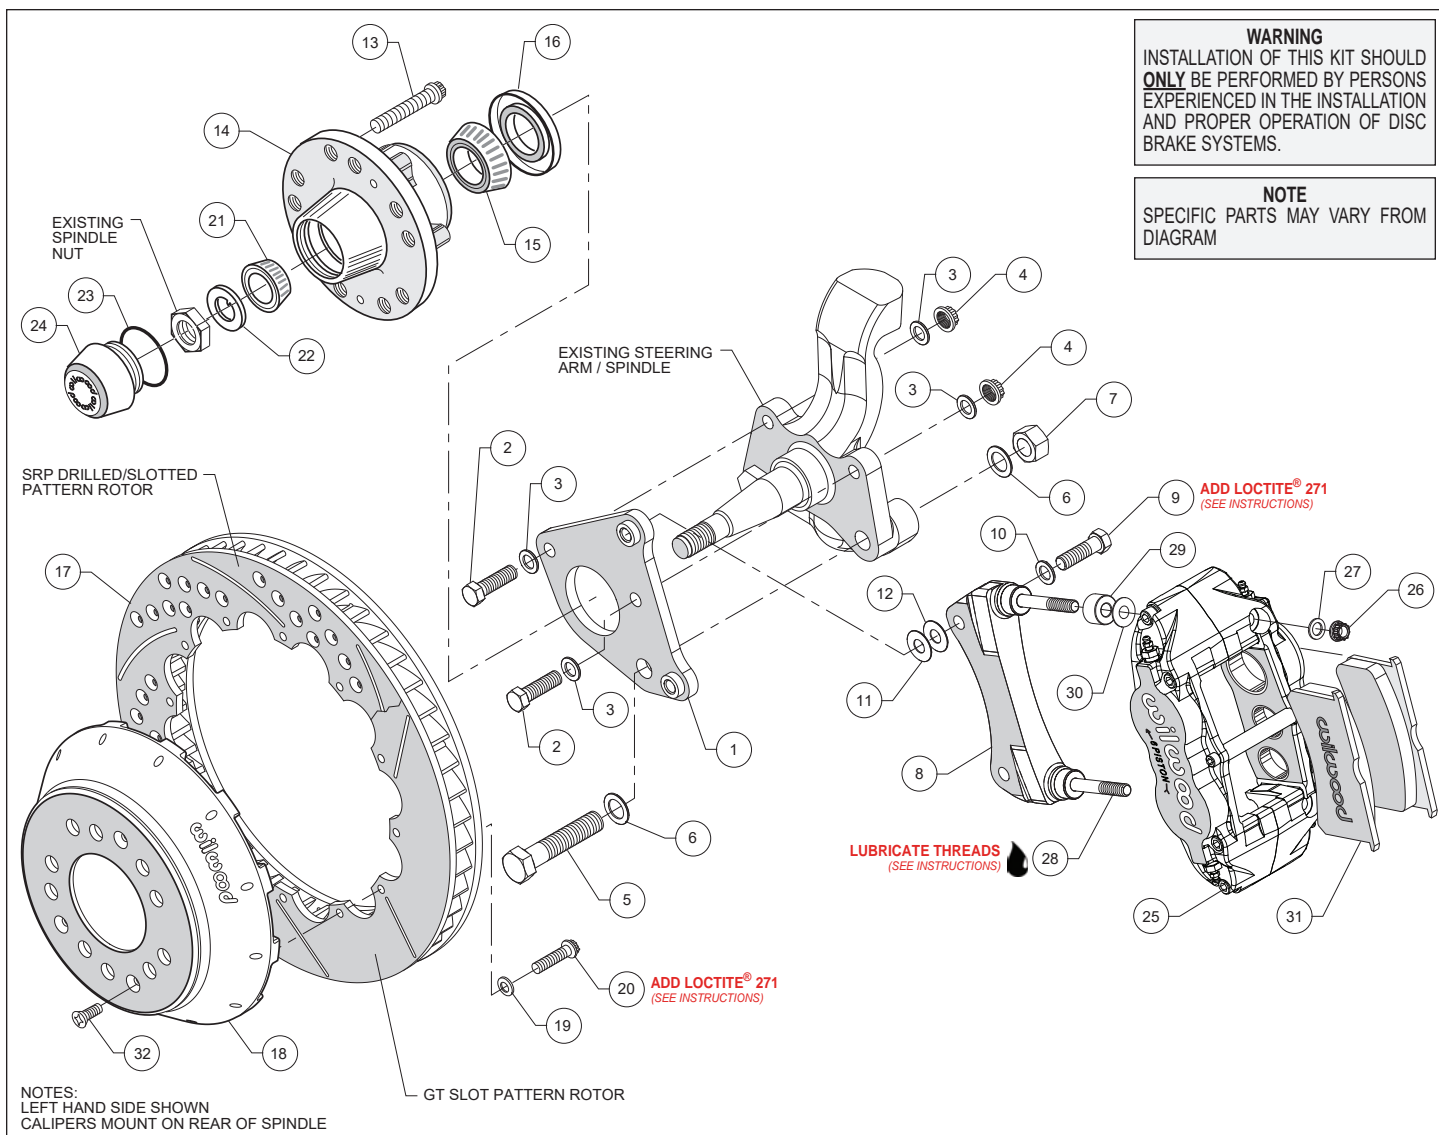
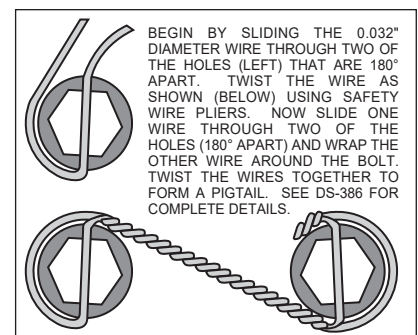

Figure 1. Typical Installation Configuration
Figure 3. Safety Wire Diagram
- Install the flat caliper bracket (1) to backing plate face of spindle using bolts (2 and 5). Install bolt (5) and washer (6) through caliper bracket (1), spindle face and the steering arm. Install another washer (6) and lock nut (7) on the rear side. Install two bolts (2) with washer (3) through caliper bracket (1), spindle face and the steering arm. Install another washer (3) and lock nut (4) on the rear side. Torque two lock nuts (4) to 47 ft-lb. Torque lock nut (7) to 140 ft-lb. **NOTE:** Be sure the heads of the caliper bracket (1) insert nuts are facing outward toward the wheel. Reference Figure 1 as necessary.
- The radial caliper mounting bracket assembly (8) should be installed first with clean, dry threads on the mounting bolts. Install the bracket on the inboard side of the flat caliper mounting bracket (1) by sliding bolt (9) through flat washer (10), through the mounting hole in the bracket (8) and into the flat bracket (1) insert nuts. Initially place two shim washers (12) between the two brackets (1 and 8) (see figure 1). The radial bracket (8) must tighten squarely against the inboard side of the flat mounting bracket (1). Later, after the caliper, pad, and rotor alignment has been checked, and any necessary shims have been put in place, the mount bolts should be coated with red *Loctite*® 271 and torqued to 47 ft-lbs.
- Install five new wheel studs (13) into the hub (14). Torque to 77 ft-lb. **NOTE:** There are two five lug patterns in the hub (5 x 4.00 and 5 x 4.50). Make sure of the correct hole pattern for the correct wheel application before installing studs into hub.
- Pack the large inner bearing cone (16) with high temperature disc brake bearing grease (available from your local auto parts store) and install into the backside of the hub (14).
- Install the grease seal (16) by pressing into the backside of the hub (14).
- With the larger I.D. side of the rotor (17) facing away from the hat (18), bolt rotor (17) to hat (18) through the backside of the rotor using washers (19) and bolts (20). Using an alternating sequence, apply red *Loctite*® 271 to the threads and torque bolts to 155 in-lb. For an added measure of security, the bolts may be safety wired using standard 0.032 inch diameter stainless steel safety wire as shown in Figure 3. Please refer to Wilwood's data sheet DS-386 (available at [www.wilwood.com/Pdf/DataSheets/ds386.pdf](http://www.wilwood.com/Pdf/DataSheets/ds386.pdf)) for complete safety wire installation instructions.
- Pack the small outer bearing cone (21) with high temperature disc brake bearing grease. Lightly coat the spindle bearing surfaces with bearing grease. Slide the hub assembly (13, 14, 15 and 16) with outer bearing cone (21) onto the spindle. Secure using spindle washer (22), existing adjusting nut and nut locking device.
•Install the dust cap (24) onto the hub (23). Friction created by the o-ring (23) on the dust cap (24) keeps it from unscrewing. The O.D. of the existing spindle washer may be larger than the I.D. of the dust cap (24) which may allow the washer to contact the dust cap (24). Use the spindle washer (22) supplied with the kit instead of the stock washer.
•**NOTE:** *This kit contains distinct right and left hand calipers that must be mounted in a specific direction, as described below.* Lubricate the caliper mounting studs (28) with lightweight oil. Initially place two .035" thick shims (29) and one spacer (30) on each stud as shown in Figure 1. Mount the caliper (25) onto the bracket (8) using lock nuts (26) and washers (27), Figure 1. Ensure that the caliper is mounted so that the largest pistons are at the rotor exit end of the caliper, in relation to the direction of rotor rotation. Temporarily tighten the lock nuts and view the rotor through the top opening of the caliper. The rotor should be centered in the caliper. If not, adjust by adding or subtracting shims (11 and/or 12) between the radial bracket and the spindle bracket. Always use the same amount of shims on each of the two mounting bolts.
•Remove the caliper center bridge pad retainer bolt, nut, and tube from the caliper. Slide the brake pads (31) into place. They should install easily without interference. Check that the outside radius of the brake pad is flush with the outside diameter of the rotor face. Add or subtract shims (30) between the caliper and radial mounting bracket to gain the proper alignment. Reinstall the center bridge pad retainer tube, bolt, and locknut. The locknut should be snug without play in the bolt or tube. Be cautious not to over tighten.
•Once all clearances have been checked, remove the wheel, caliper, hat, and rotor from the spindle and hub. Secure the radial caliper mounting bracket (8) to the flat caliper mounting bracket (1) using red *Loctite*® 271. Torque the bolts to 47 ft-lbs. Reinstall the hat and rotor assembly and again use several lug nuts to hold it in place. Reinstall the caliper, torque the caliper nuts (26) to 28 ft-lbs.
•Install three flat head socket screws (32) through the small holes in the hat (18) and torque to 85 **in-lb**.